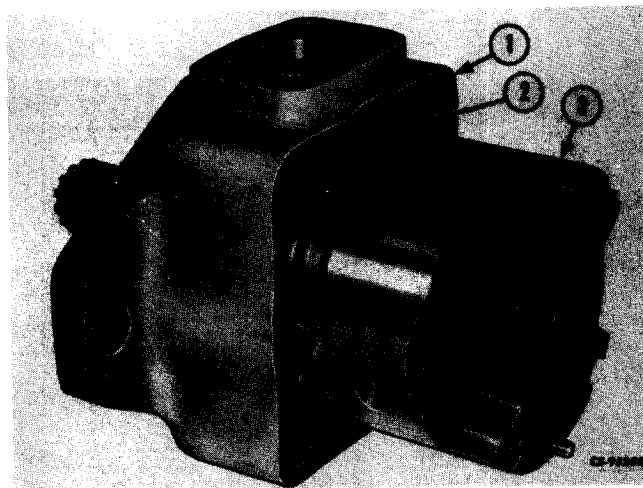

Figure 11-18
Remove "O" ring (2, Fig. 11-18) and cartridge (3) from body (1).
Install cartridge (3, Fig. 11-18) and "O" ring (2).